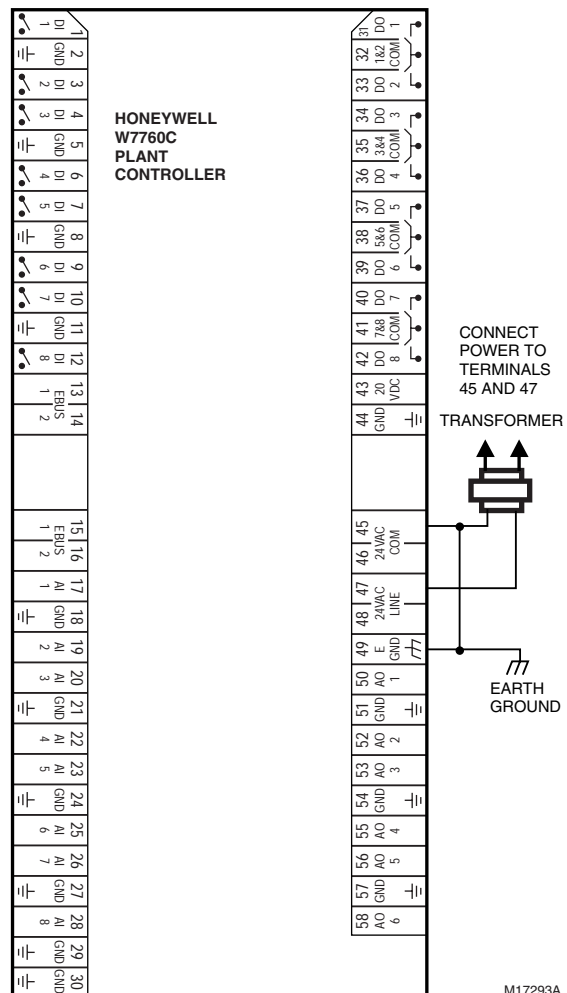
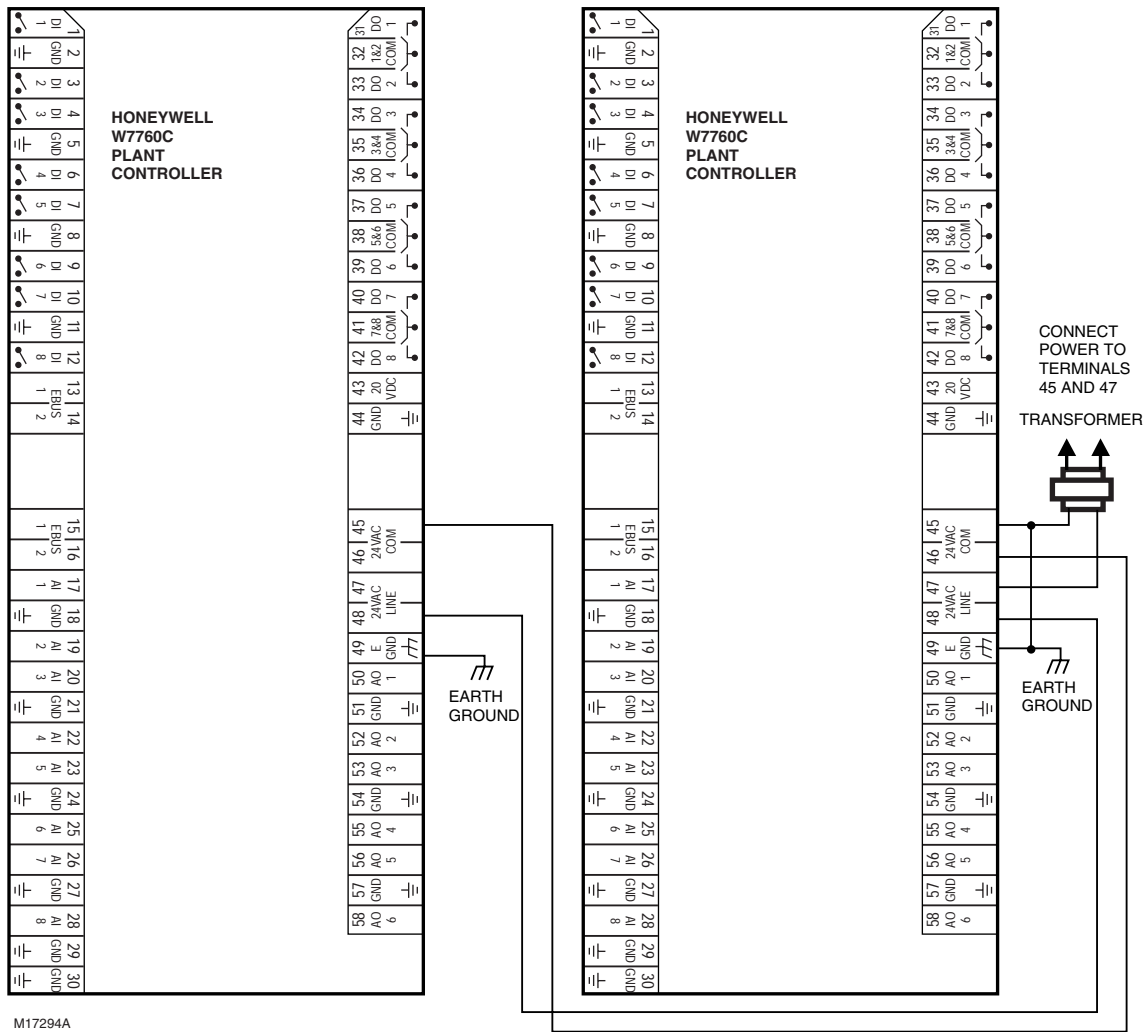

Fig. 7. Power wiring details for one W7760C per transformer
Fig. 8. Power wiring details for two W7760Cs per transformer.
- Do *not* connect the analog or digital ground terminals (2, 5, 8, 11, 18, 21, 24, 27, 29, 30, 44, 51, 54 and 57) to earth ground. See Fig. 7.
To conform to Class II restrictions (U.S. only), use transformers 100 VA or smaller. More than one W7760C Plant Controller can be powered with a single transformer. See Fig. 7 for power wiring details for a single controller and Fig. 8 for multiple controllers using one transformer.
NOTE: If the cover assembly/electronics is removed, power will be lost to the second controller in Fig. 8.
- Connect the ground terminal 49 on the W7760C to a verified earth ground for each plant controller in the group. See Fig. 8. (Plant Controller configurations are not limited to two controllers, but the total power draw including accessories can not exceed 100 VA when powered by the same transformer (U.S. only). See System Engineering, form 74-3079, for power wiring recommendations.)
- Keep the earth ground connection (terminal 49) wire as short as possible. See Fig. 7.
1. Be sure that (terminal 49) on each W7760C Controller is wired to a verified earth ground that uses a wire run as short as possible with the heaviest gauge wire available, (based on a maximum of 14 AWG (2.5 mm²) and a minimum of 18 AWG (1.0 mm²)). See Fig. 7.
2. For 24 Vac power connections: Verify that multiple controllers powered by the same transformer are wired with the transformer secondary connected to the same input terminal numbers on each W7760C. See Fig. 8. (Plant Controller configurations are not limited to two controllers, but the total power draw, including accessories can not exceed 100 VA when powered by the same transformer (U.S. only). See System Engineering, form74-3079, for power wiring recommendations.